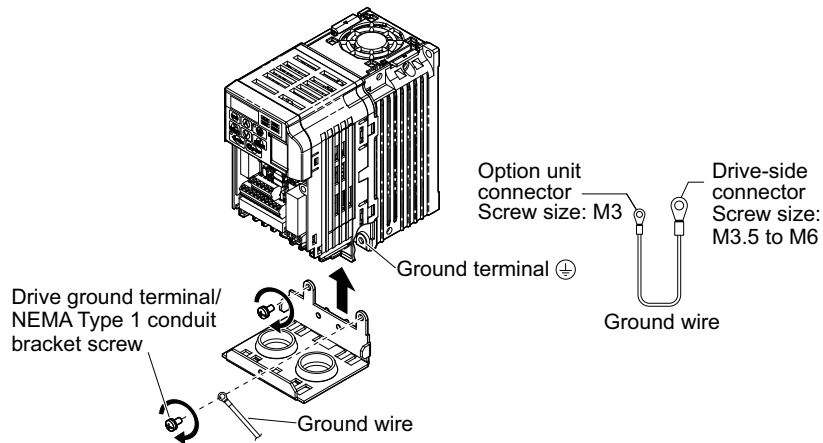

Figure 11 Reattach the NEMA Type 1 Conduit Bracket and Connect the Ground Wire for models CIMR-V□BA0001F to BA0003F, 2A0001F to 2A0006F
8. On NEMA Type 1 enclosure models (CIMR-V□BA0001F to BA0003F, 2A0001F to 2A0006F), the screw for the drive ground terminal also acts as one of the screws that attaches the NEMA Type 1 conduit bracket to the drive. Reattach the NEMA Type 1 conduit bracket according to **Figure 11** and connect the drive-side of the ground wire to the drive ground terminal.